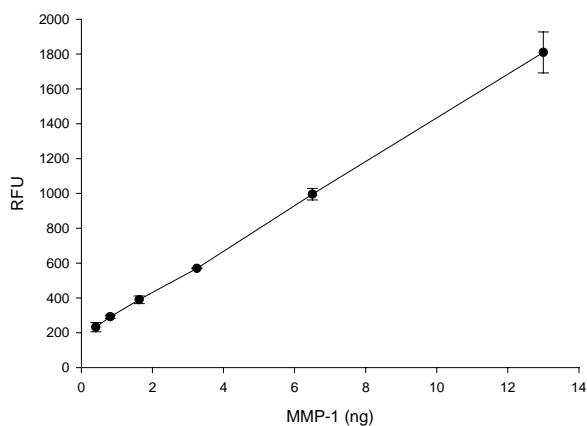

Figure 1. Sensitivity of the SensoLyte® 520 MMP-1 assay kit.
- Plot data as RFU versus concentration of test compounds or enzyme concentration (Figure 1).